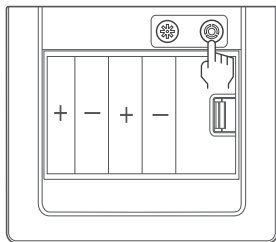

Figure 5
1. As shown in Figure 5, press "⊗" for 3 seconds. There will be a voice prompt "Vibration alert is on", indicating successful operation. Press the same button for another 3 seconds can turn the "Vibration alert" off.